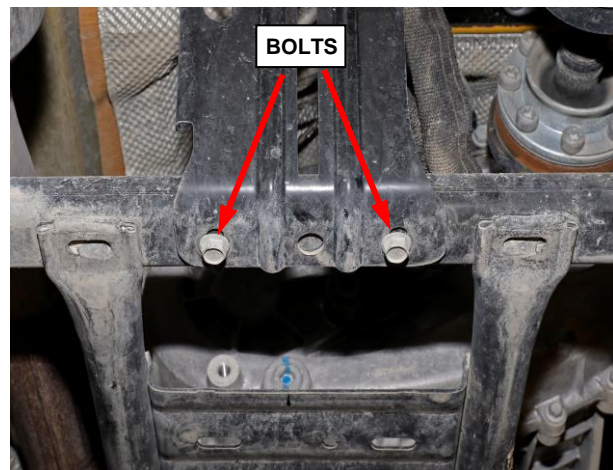

Figure 6 – PPU Skid Plate Bolts
12. Remove the two bolts attaching the Power Pack Unit (PPU) skid plate to the transfer case skid plate (models with eTorque only) (Figure 6).
18. Install the two bolts attaching the Power Pack Unit (PPU) skid plate to the transfer case skid plate (models with eTorque only) (Figure 6). Tighten the bolts to 9 N·m (80 in. lbs.).